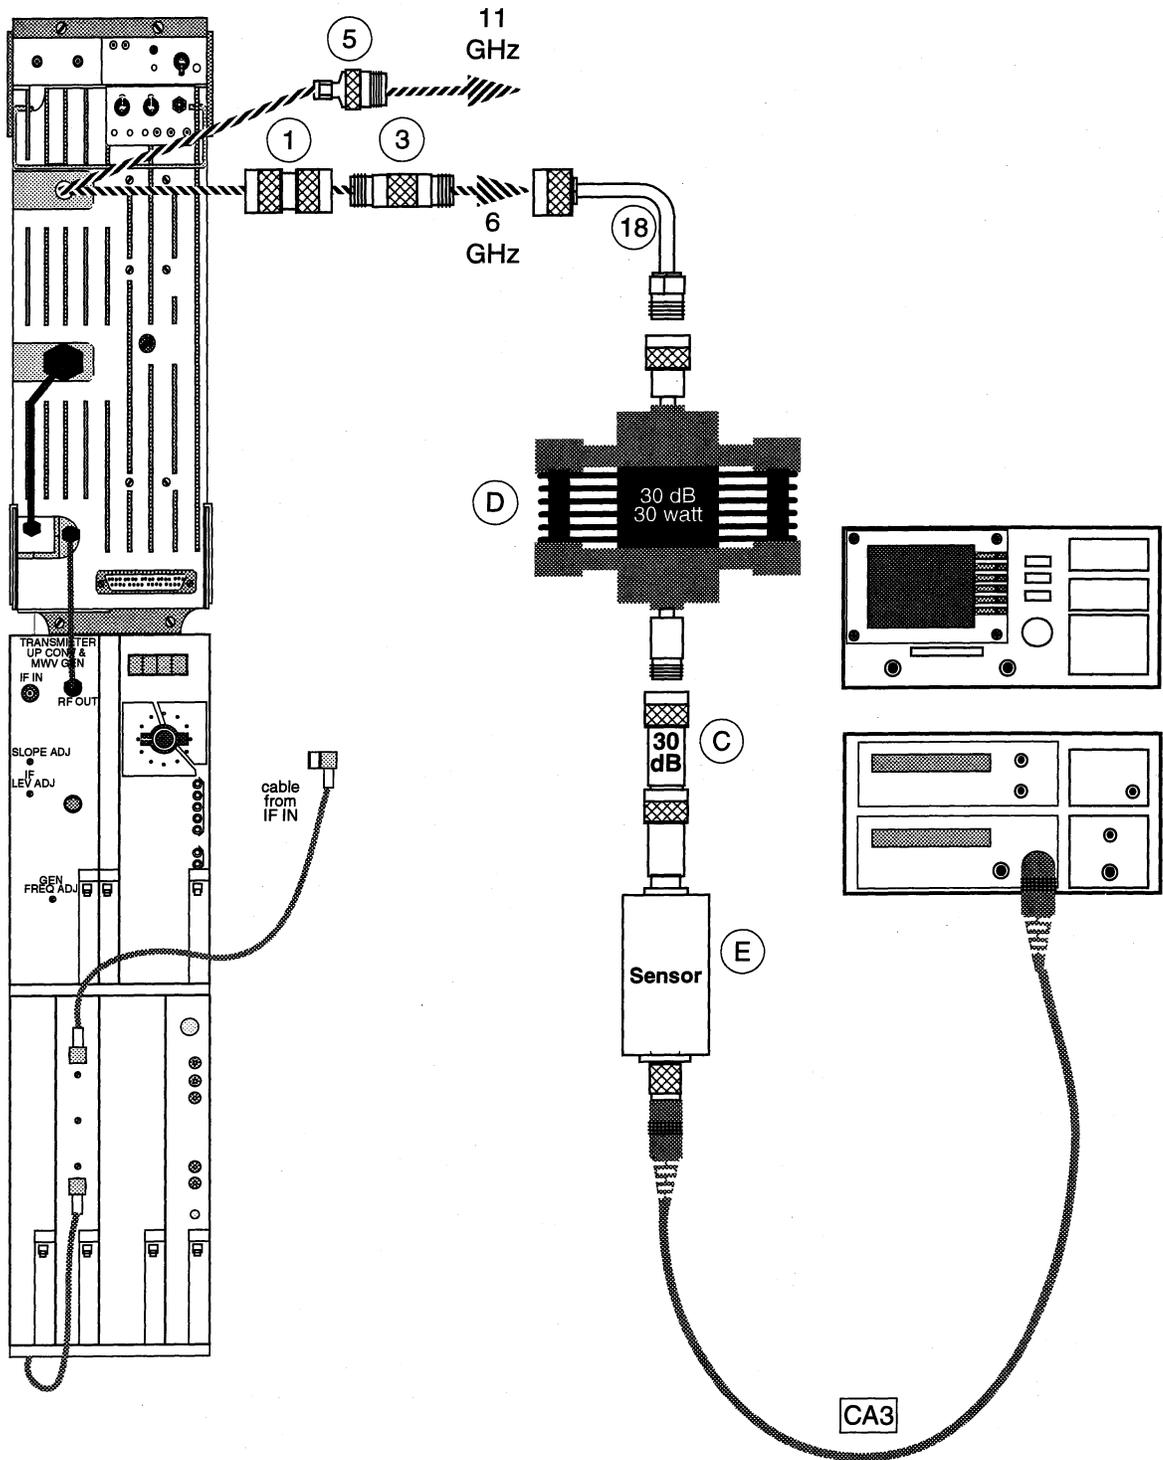

Figure 32. TWT Amplifier Gain Check
- 7 Connect the test equipment as shown in Figure 32.